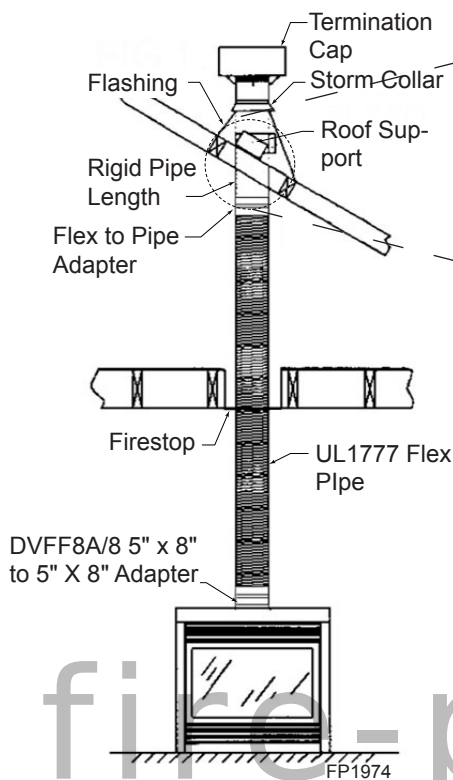

Figure 38 - Typical Vertical Flex Vent Installation
- A. Installing the inner flex adapter and pipe. *Figure 38*
2. Install firestop spacers, *Figure 38*, when penetrating ceiling, attic spaces, or walls.
4. Use only listed and approved terminations and accessories, installed per the installation instructions and *Figure 38*.